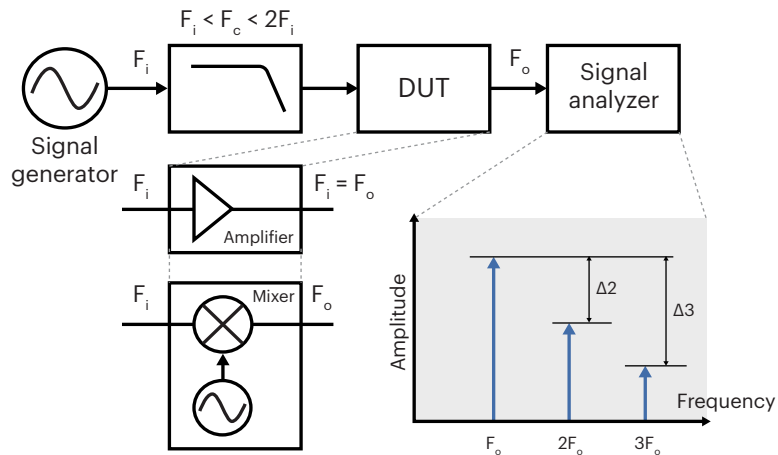

Figure 7.1. Harmonic distortion measurement setup
We can explain how to measure harmonic distortion using a continuous wave (CW) tone. Figure 7.1 shows the harmonic distortion measurement setup. The DUT could be an amplifier or a mixer. The signal generator outputs a CW with a frequency of F_i . This CW goes through a low-pass filter to remove harmonic distortions from the signal generator. Notice that the cutoff frequency of the low-pass filter, F_c , is less than $2F_i$.